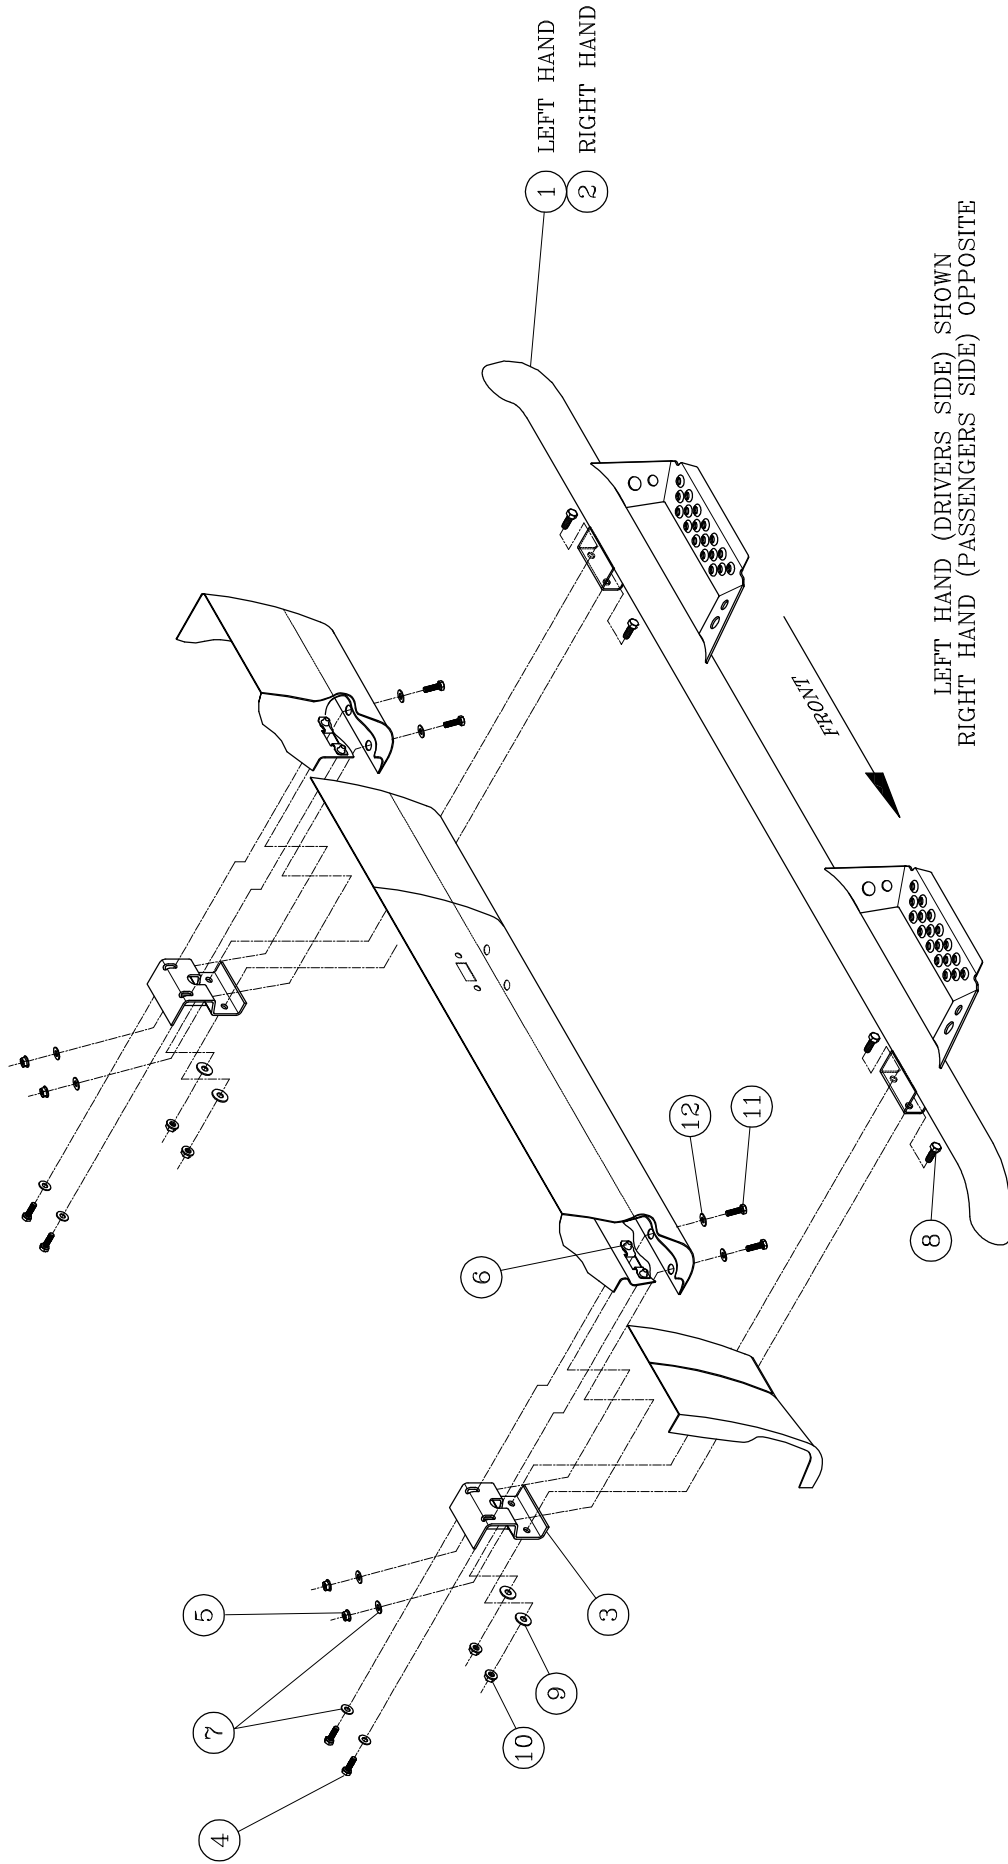

FIG. 1
- 2.1. LAY BAJA-STEP ASSEMBLIES (ITEM #1, & 2) ON FLAT SURFACE, AND ATTACH THE MOUNTING BRACKETS (ITEMS #3) TO EACH BAJA-STEP IN THE LOCATIONS AS SHOWN IN (FIG. 1), USING THE SUPPLIED 3/8-16 X 1 SCREW, 3/8" FLAT WASHER, & 3/8-16 SERRATED FLANGE NUT, (ITEMS #8, 9, & 10). LEAVE THESE FASTENERS FINGER TIGHT AT THIS TIME.